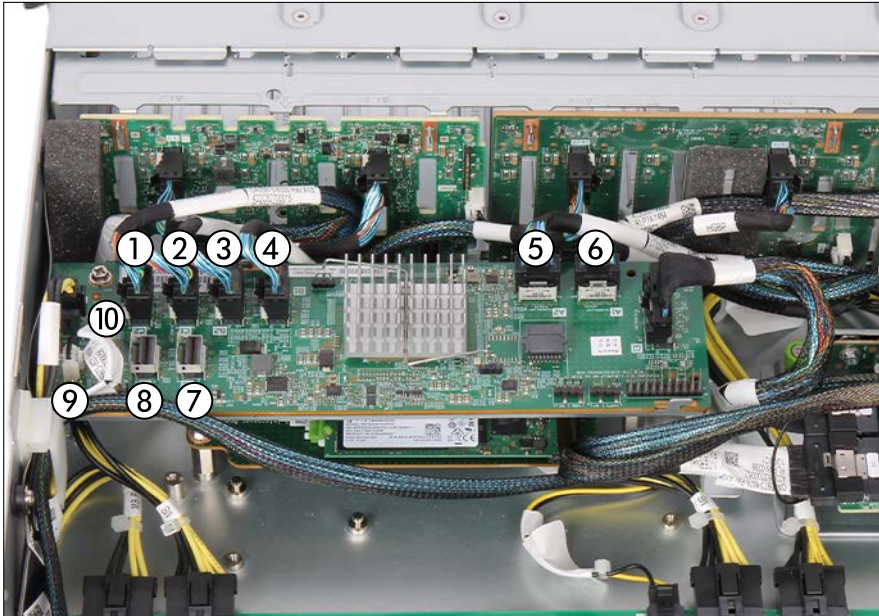

Figure 103: Connecting cables to the SAS expander board
- ▶ Connect the cables to the SAS expander board, see Figure 103.